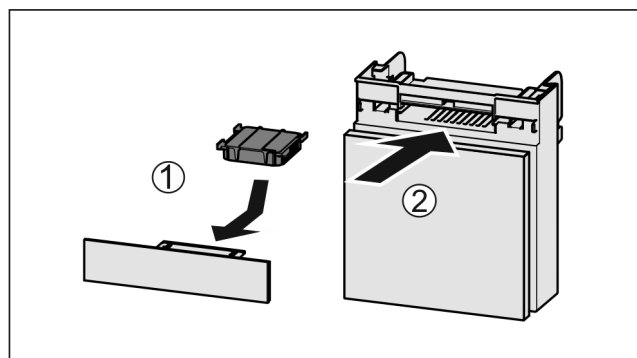

Fig. 120
- ▶ Insert the carbon filter as shown in the diagram Fig. 120 (1).
- ▶ Push the compartment in Fig. 120 (2).